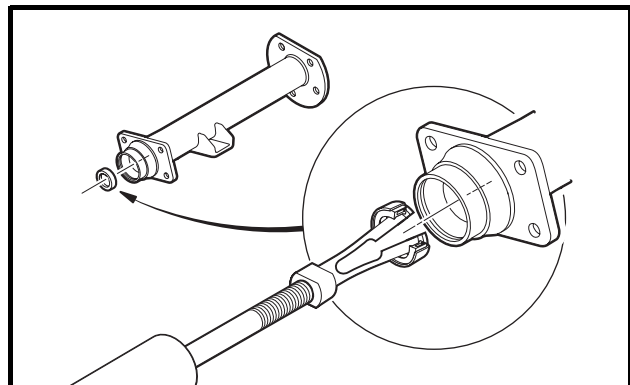

Figure 28-2 Axle Seal and Adapter Ring Removal
- 6.1. Use a bearing puller (CCI P/N 1016417) to remove the axle seal and adapter ring from the axle tube **(Figure 28-2, Page 28-2). See following CAUTION and NOTE.**